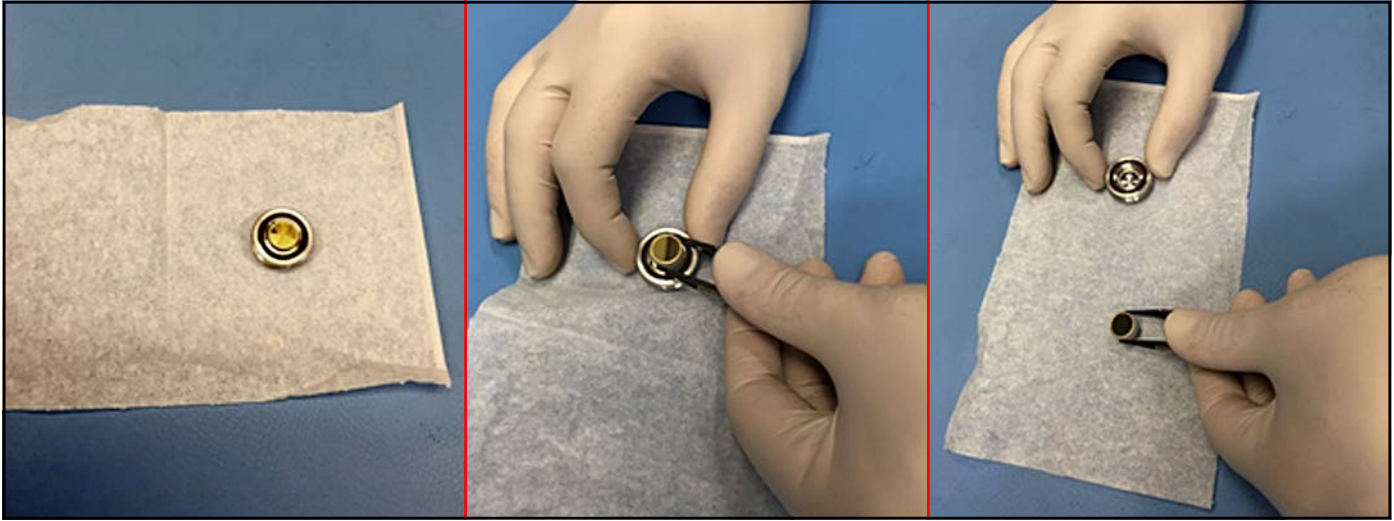

Figure 94: Inspecting the Mirror Assembly
3. Gently place the extracted mirror assembly on a clean lens tissue. Using a pair of plastic-tipped tweezers gently extract the 0.5" diameter mirror from the end cap, taking care not to touch, squeeze or nick the two O-rings in the end cap assembly (see *Figure 94* below).